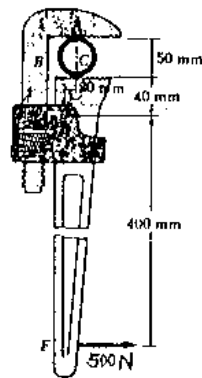

Figure 2
(2) A pipe of diameter 50 mm is gripped by the Stillson wrench. Portions AB and DE of the wrench are rigidly attached to each other and portion CF is connected by a pin at D. Assuming that no slipping occurs between the pipe and the wrench, determine the components of the forces exerted on the pipe at A and at C (Figure 2). (15%)